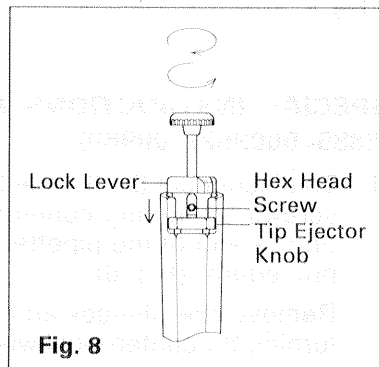

Fig. 8
2. Depress the tip ejector knob fully. (Fig. 8)
3. Loosen the lock lever by turning it counter-clockwise and stop when the oval opening under the lever faces over the tip ejector knob. (Fig. 8)
4. Rotate the thumb knob until one of two hex head screws comes to the top of oval opening. (Fig. 8)
5. Loosen both hex head screws with a hex head wrench (1.5mm) by turning them counter-clockwise one by one. (Fig. 8)